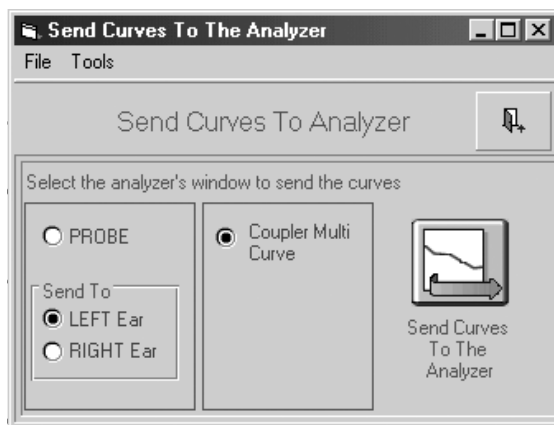

Figure 7.3.4—The Send Curves window
2. Click **Send Curves**. This will open the Send Curves window. See Figure 7.3.4.